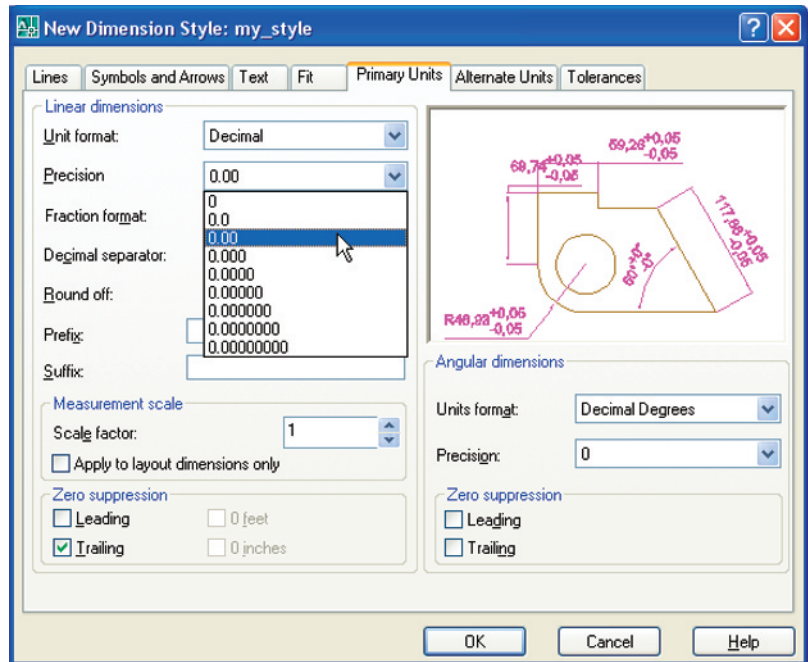

Fig. 6.21 The **Primary Units** sub-dialog of the **Dimension Style Manager**
2. *Click* the **Modify...** button of the dialog, followed by a *left-click* on the **Primary Units** tab and in the resulting sub-dialog make settings as shown in Fig. 6.21. Note the changes in the preview box of the dialog.